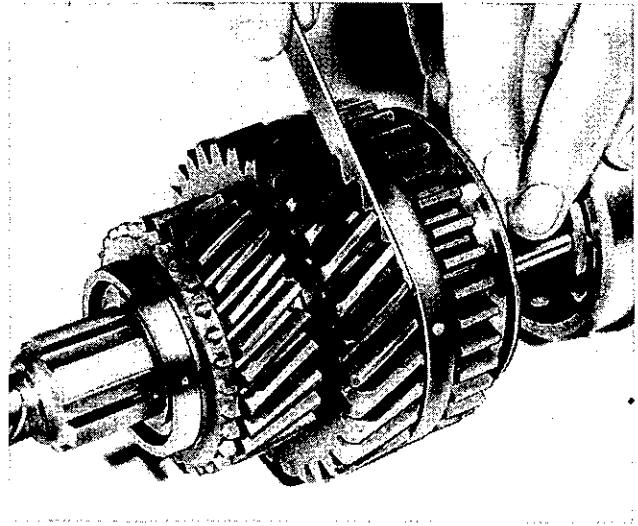

Fig. 21. Checking clearance between "first" speed sliding gear and its synchro cup
- (g) When reassembling new gears and bushes on to the mainshaft, there should be a clearance, measured as shown in Fig. 21 between the "first gear" synchro cup and the "first gear" itself of  $.065"-.070"$ , with the gear synchro cup and cone in contact.